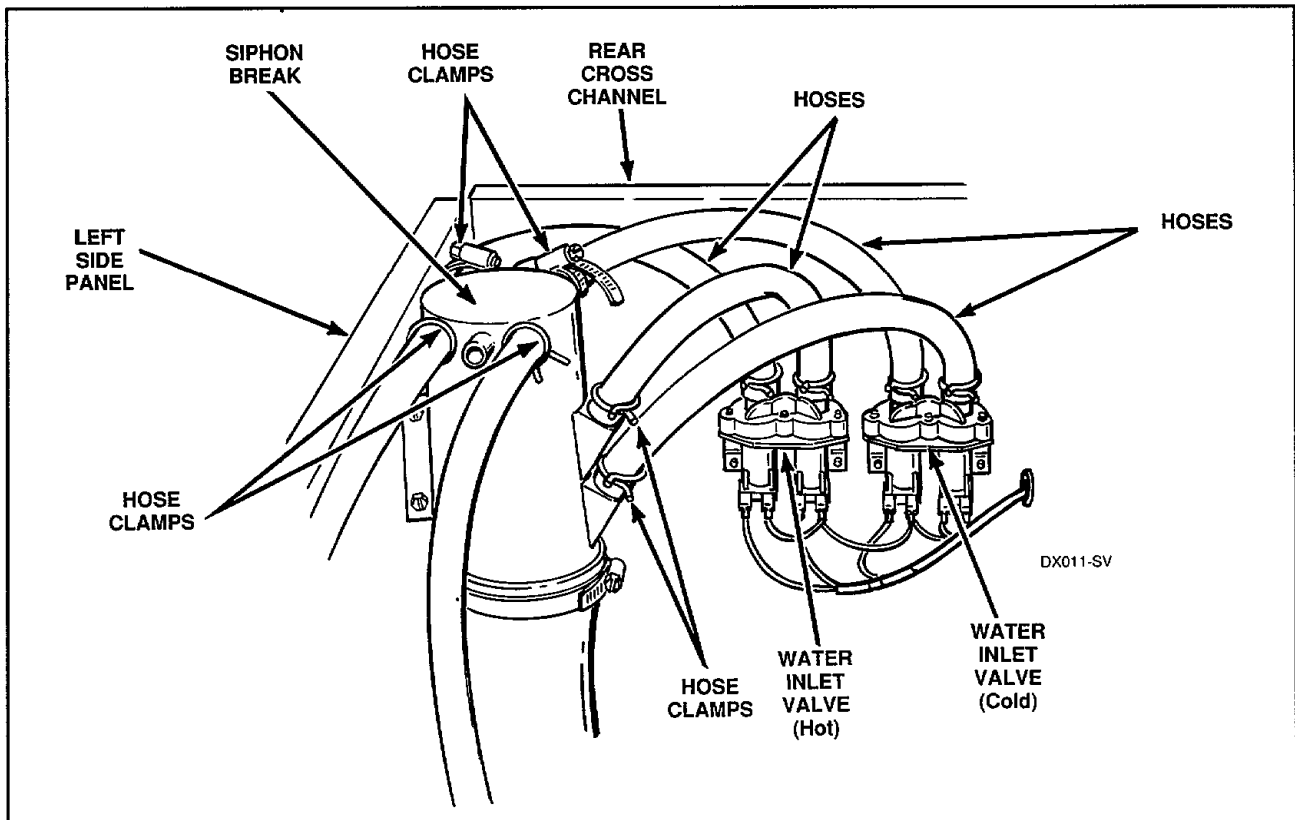

Figure 17
- e. Disconnect wires from inlet valve solenoids, *Figure 17*.
- f. Loosen hose clamps and remove dispenser hoses at the water inlet valve, *Figure 17*.
- e. Loosen hose clamps and disconnect hoses from siphon break, *Figure 17*.